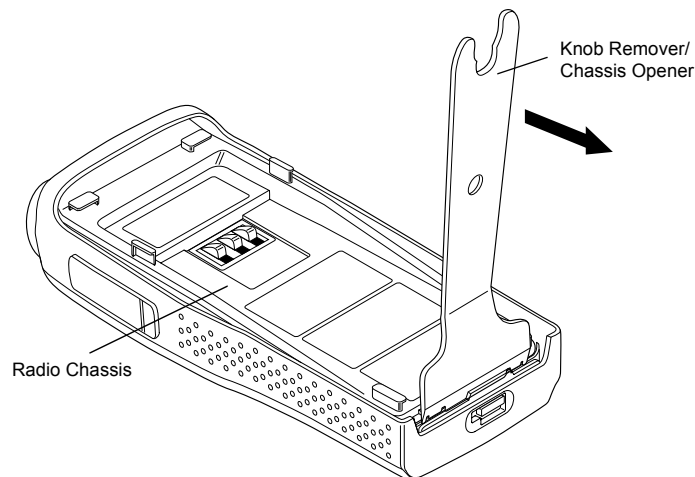

Figure 7-3. Chassis Removal
5. Separate the chassis from the front housing assembly by using the knob remover/chassis opener tool. Place the broad side of the opener into the slots located at the base of the radio (Figure 7-3). Press the handle of the opener downwards. This pressing action forces the thin inner plastic wall toward the base of the radio, releasing the two chassis base tabs